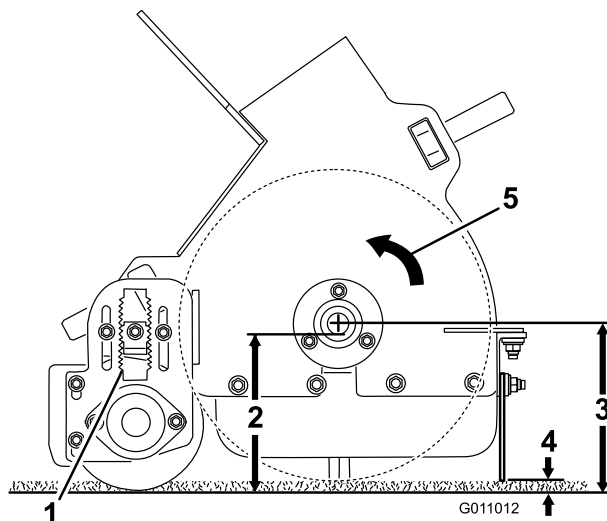
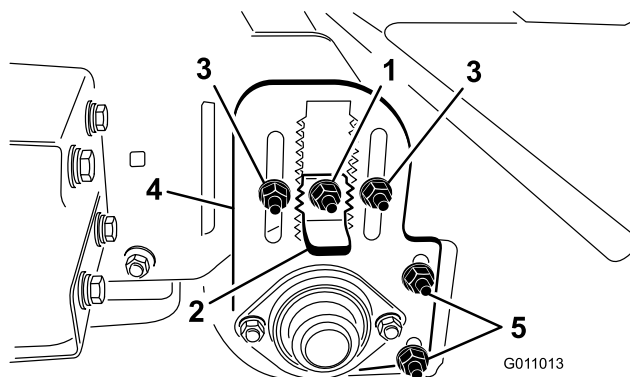

Figure 20
Figure 21
Refer to Figure 20 and Figure 21 for further explanation of recommended machine settings.
3. Loosen the locknut on the height adjustment key (Figure 21) so that you can pull it out approximately 13 mm (1/2 inch).
4. Loosen the roller-height adjustment locknuts (Figure 21).
5. Pull out the height-adjusting key and move the rear roller up or down by sliding the roller-height adjusting plate to the desired height (Figure 21).
Ensure that the roller scraper (Figure 21) is adjusted with a 2 mm (1/16 inch) clearance between the scraper and the roller. Loosen the roller scraper adjusting nuts, position the roller as desired, and tighten the nuts.